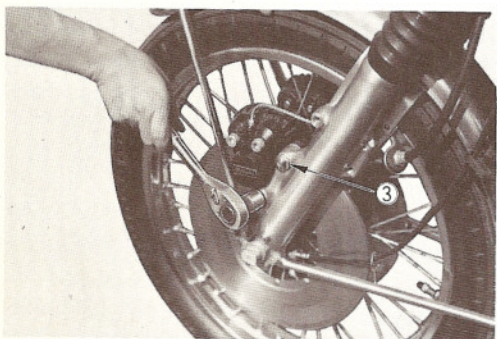

Fig. 4-2-8
- 2) Loosen the two left caliper fitting bolts ③ as shown in Fig. 4-2-8.